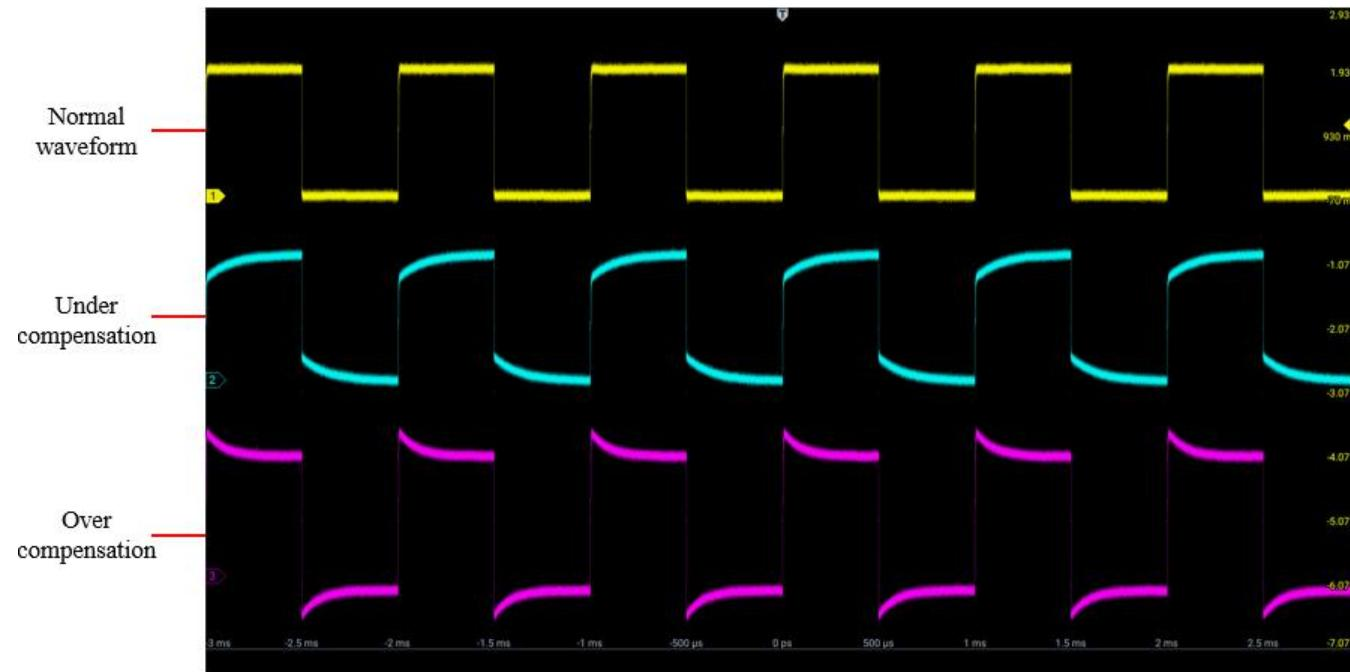

Figure 2-13 Probe Compensation
6) Tap  button or manually adjust the waveform vertical sensitivity and horizontal time base. Observe the waveform. As shown in Figure 2-13.